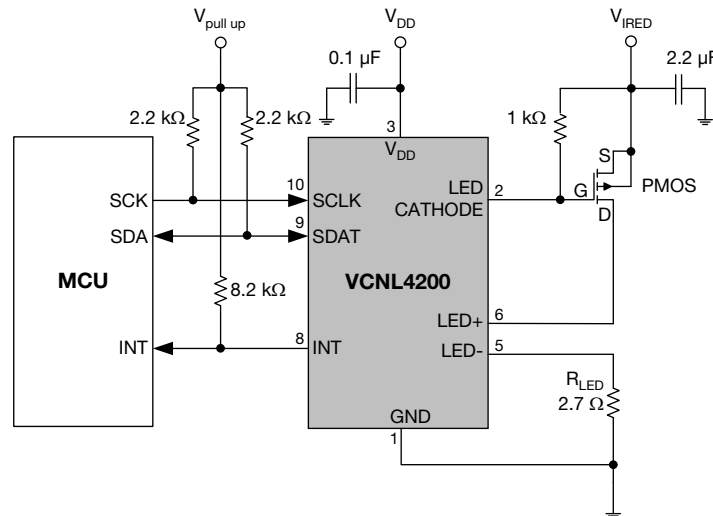

Fig. 11 - Application Diagram
- (1) Light source: white LED
- (2) Maximum detection range to ambient light can be determined by ALS refresh time adjustment. Refer to table 17 "ALS Resolution and Maximum Detection Range"
- (3) Based on IRED on / off duty ratio = 1/160, 1/320, 1/640, and 1/1280. The circuitry should use an external MOSFET as shown with Fig.11. Please see also the Application Note "Designing the VCNL4200 into an Application" ([www.vishay.com/doc?84327](http://www.vishay.com/doc?84327))